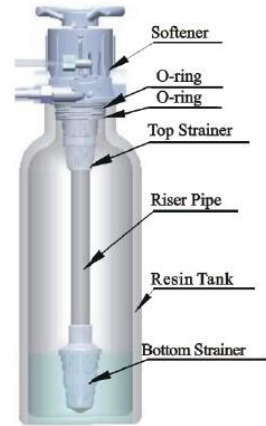

Figure 1-1
- ①The closer filter or softer to the drain point, the better.
- ②Leave a certain space for operating and maintaining conveniently
- ③The brine tank should be close to the softener.
- ④Do not install the valve near hot resources or in the sunlight, rain and other factors that may result in damage to the product directly.
- ⑤Do not install the device, drain outlet and other pipes under environment where the temperature may drop below 5°C, or above 45°C.
- ⑥Please install the system in a place where damage is least likely to occur if a leak emerges.
- ① **Install control valve**
- As the Figure 1-1 shows, select the riser pipe with 26.7mm OD, glue the riser pipe to the bottom strainer and put it into the mineral tank, cut off the exceeding tube out of tank top opening. Plug the riser tube in case of mineral entering.